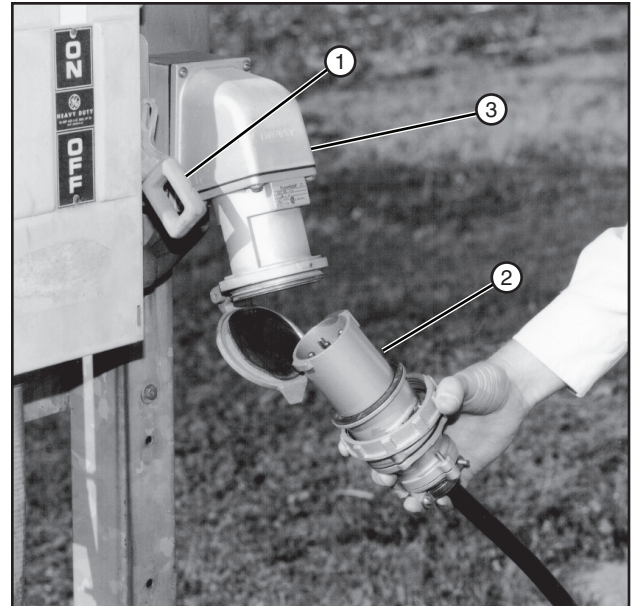

Figure 47-1 1. Service Disconnect - OFF
24. With the service disconnect in the OFF position, plug the power plug into the receptacle. See Figure 47-1.